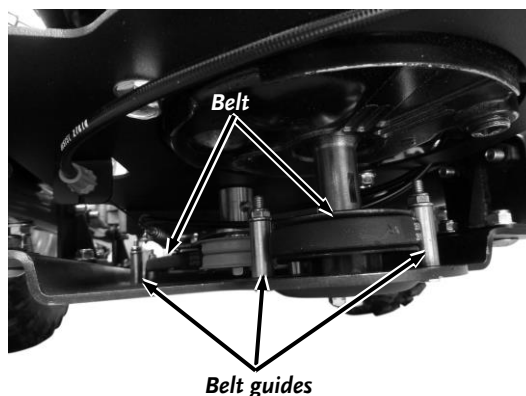

Figure 42
9. Reinstall the Skid Plate making sure that the Belt is on the inside of all Belt Guides (**Figure 42**).